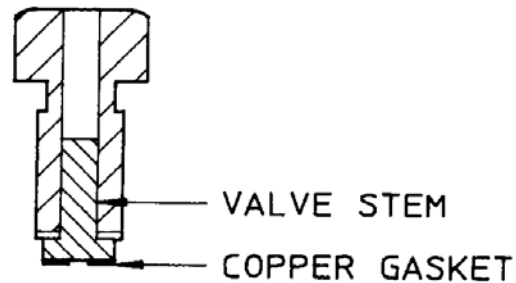

FIGURE 15
4.9 Manual Bleed Valve (Figure 15)